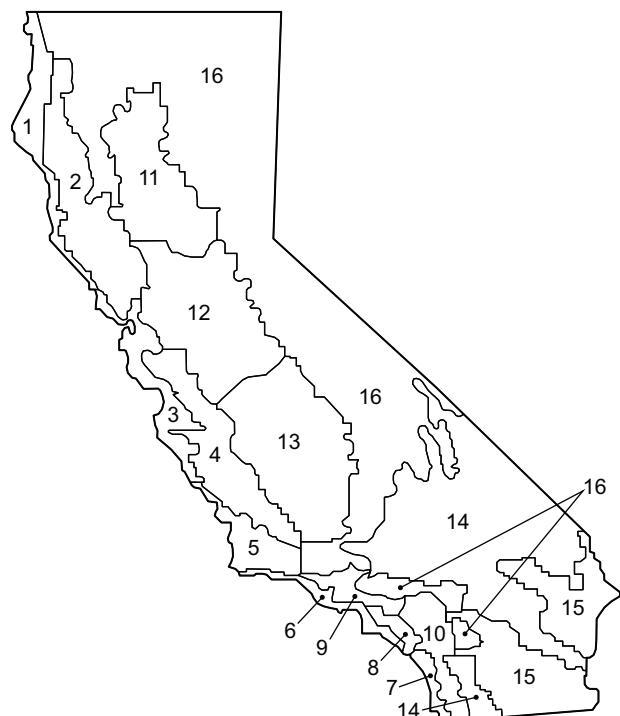

Fig. 81 — California Title 24 Zones
- b. See Fig. 81 for map of California Title 24 zones.